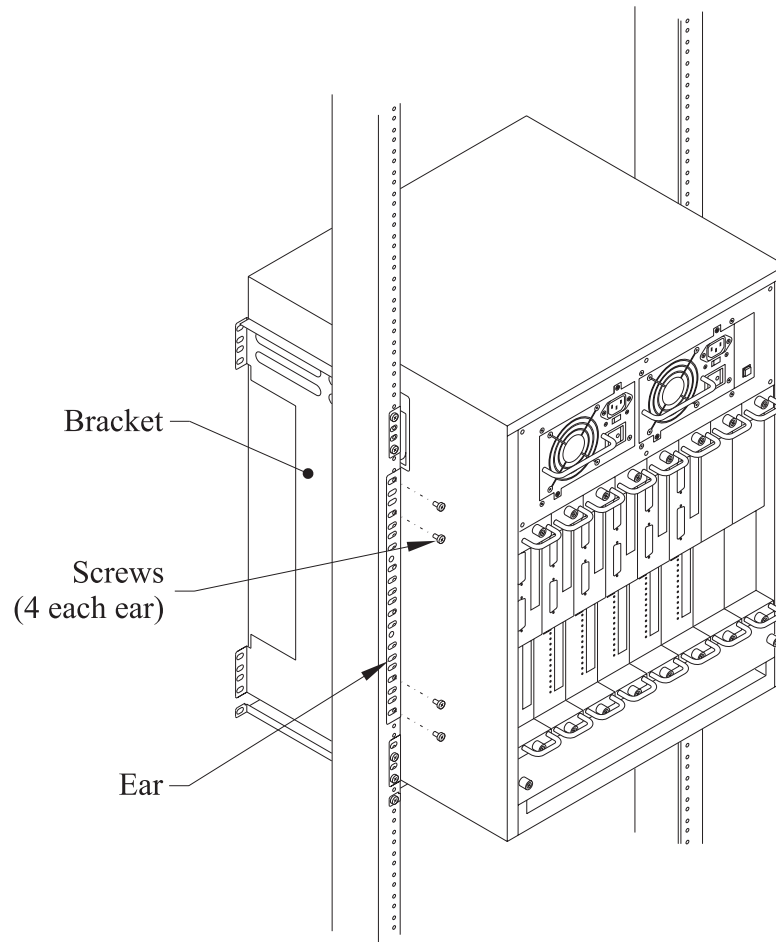

Figure 9. Securing the Unit to the Rack
1. Using your own screws or clips, secure the mounting ears to the rack as shown in Figure 9, using two screws at the top of each mounting ear and two screws at the bottom of each mounting ear.